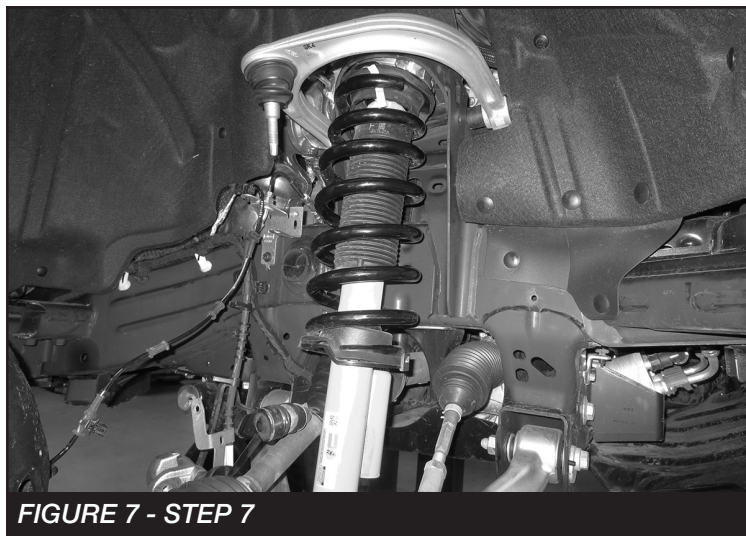

FIGURE 7 - STEP 7
7. Install the strut assembly into the vehicle using the supplied 3/8" nuts and washers for the upper mount. **SEE FIGURE 7**